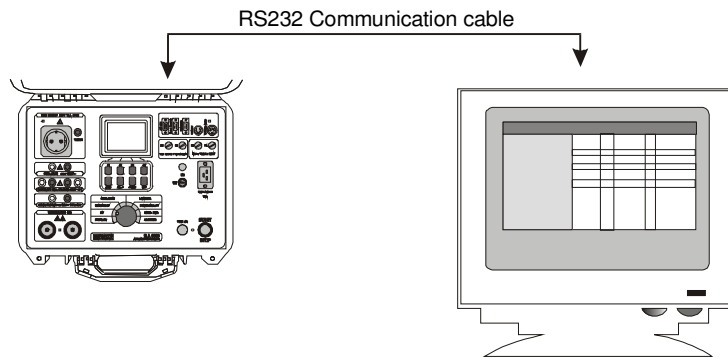

Fig. 53. Connection of APPLIANCE MULTITESTER to PC
- STEP 1.** Connect APPLIANCE MULTITESTER to PC as shown in fig. 53 using appropriate RS 232 communication cable.